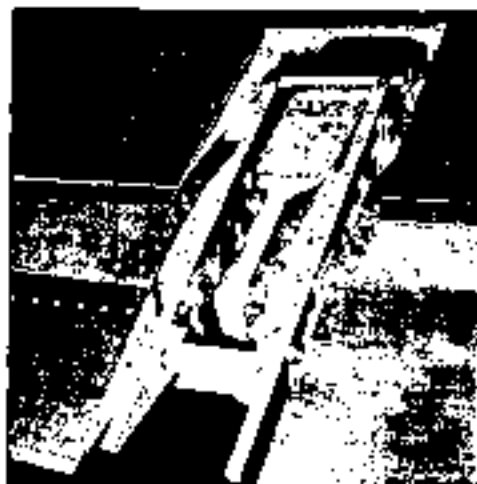

Fig. 5-84 Attach tentatively inboard and outboard flaps to actuator box
- (4) Install inboard and outboard flaps and actuator box as a unit into a space where flap is retracted. Tentatively attach inboard and outboard flaps to actuator box with bolts. (See Fig. 5-84)